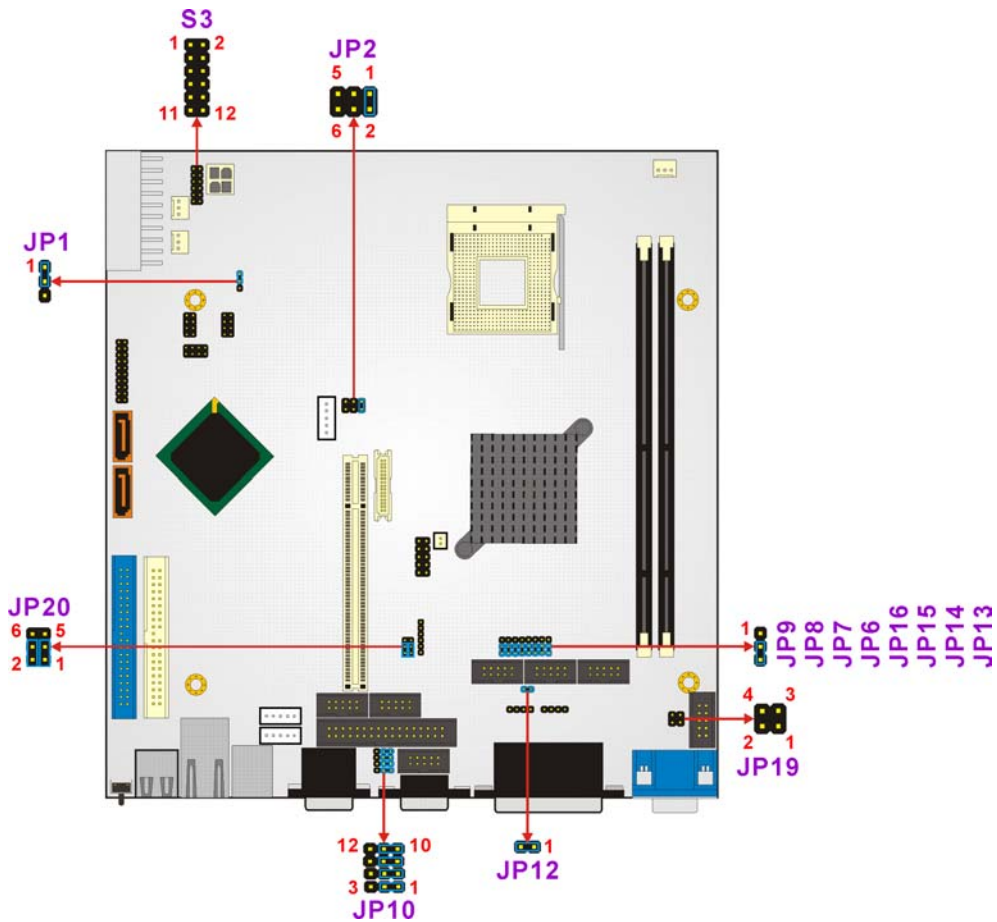

Figure 4-8: Jumper Locations
The POS-8520 CPU Board has fifteen onboard jumpers (**Figure 4-8**).
Jumper Location:	See Figure 4-8
- Jumper Location: See Figure 4-8